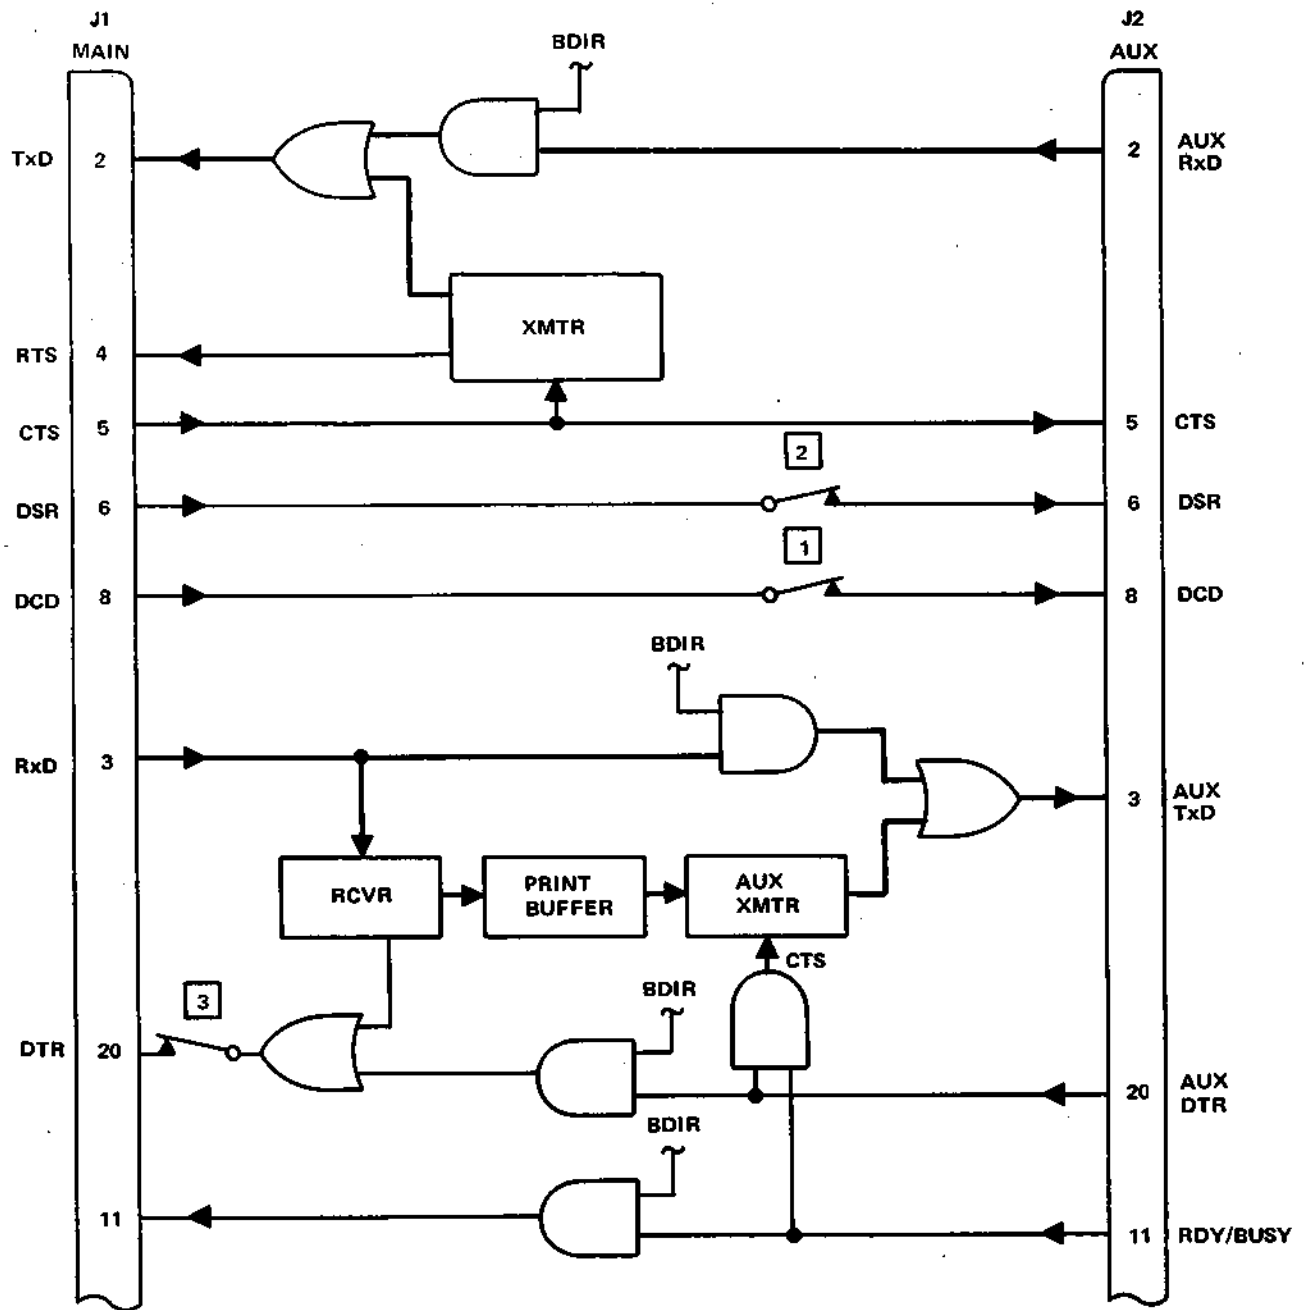

Figure 5-3. Main Port and Auxiliary Port Signal Flow
**5.2.4 HOST TO AUX.** Figure 5-3 shows the signal flow between the main and auxiliary ports. In all modes the Clear to Send, Data Set Ready and Data Carrier Detect signals at the main port are relayed to the auxiliary port. A three part DIP switch on the main logic port provides a means of disabling some of the control signals (shown as 1, 2 and 3 on figure 5-3). The **Bidirectional Mode** provides a means for the host computer to control the auxiliary device directly. In this mode data received from the host is passed to the auxiliary device and data from the auxiliary device is transmitted to the host. The data is output by the terminal in the same format and speed as it is received. The aux Data Terminal Ready signal at aux pin 20 and an aux "Ready/Busy" signal at aux pin 11 are also relayed to the corresponding main port pins in this mode and either may be used to permit the auxiliary device to control data flow from the host. Since data transmitted by the aux device is also passed to the host it is possible for the aux device to use data protocols (e.g. X OFF/X ON or ETX/ACK protocols) to control transmission from the host. Note however that if the keyboard is not locked out it is possible for data generated at the terminal to collide with data transmitted by the aux device, resulting in a garbled transmission to the host.